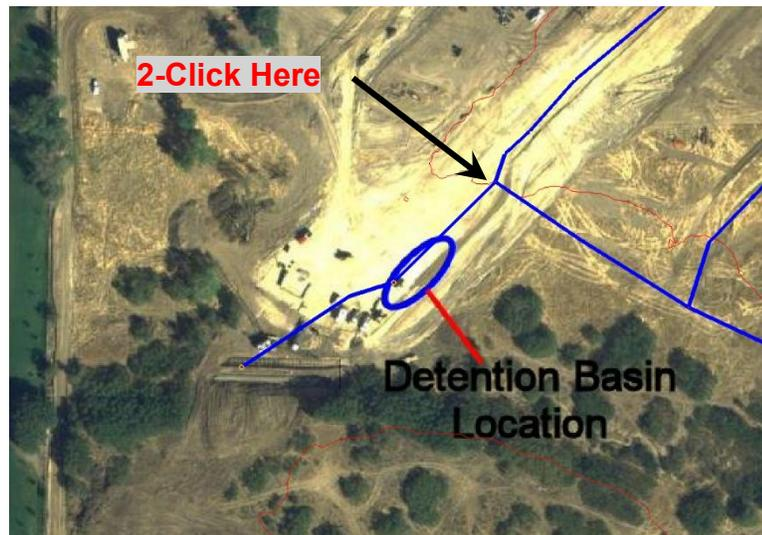

Figure 5 Node above detention basin location
7. Double-click on the node just above the detention basin location to open the *Drainage Feature Point Type* dialog. (See Figure 5)